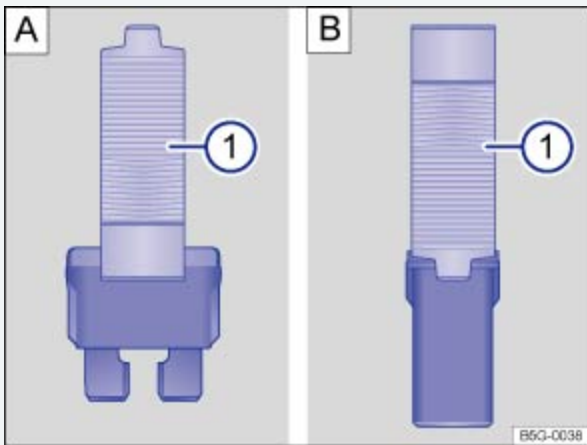

Fig. 234 Removing or installing a blade fuse with the plastic tweezers: : Blade fuse. : JCASE® fuse.
- Depending on the type of fuse, slide the tweezers ⇒ *Fig. 234 A* ① or ⇒ *Fig. 234 B* ① onto the fuse from the side.